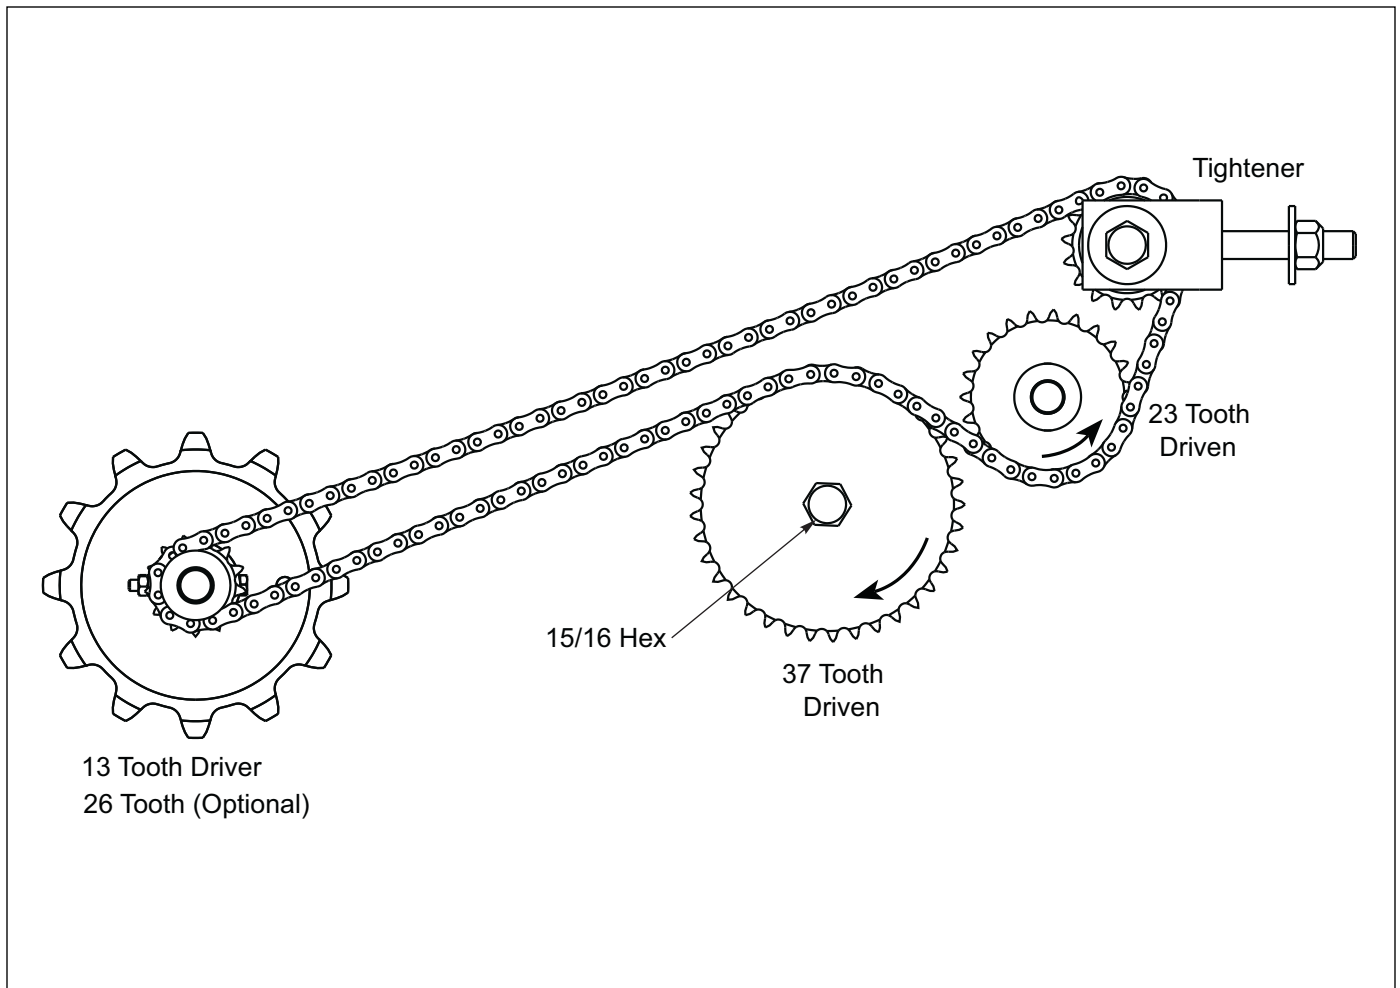

Figure 3-12: Transmission Drive
5. Turn 15/16 Hex on Transmission Shaft Clockwise(CW). See **Figure 3-12**.